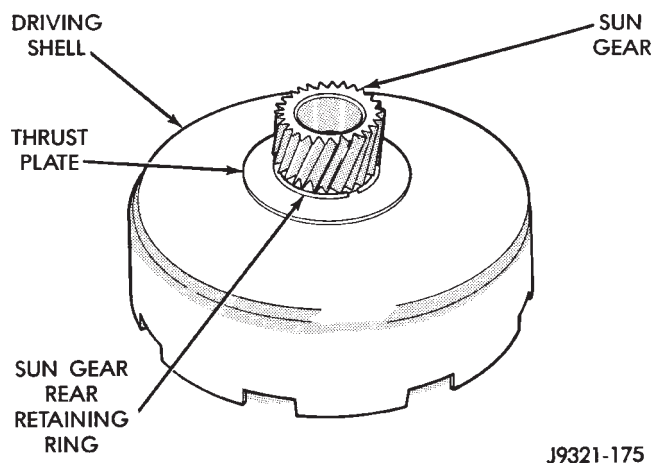

Fig. 179 Sun Gear Installation
(1) Lubricate sun gear and planetary gears with transmission fluid during assembly. Use petroleum jelly to lubricate intermediate shaft bushing surfaces, thrust washers and thrust plates and to hold these parts in place during assembly.
(2) Install front snap ring on sun gear and install gear in driving shell. Then install thrust plate over sun gear and against rear side of driving shell (Fig. 179). Install rear snap ring to secure sun gear and thrust plate in driving shell.